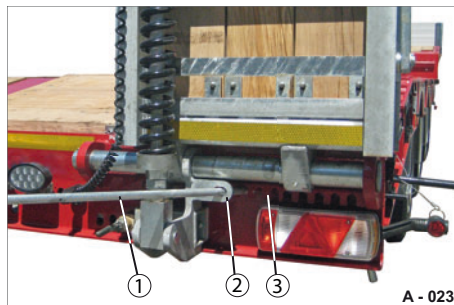

Fig. 23 Adjustment, lateral
- Lead the lever handle (Fig. 23/1) through the latch (Fig. 23/2) as a leverage point.
- Move the ramp into the desired position in the adjustment steps (Fig. 23/3) by moving the lever.